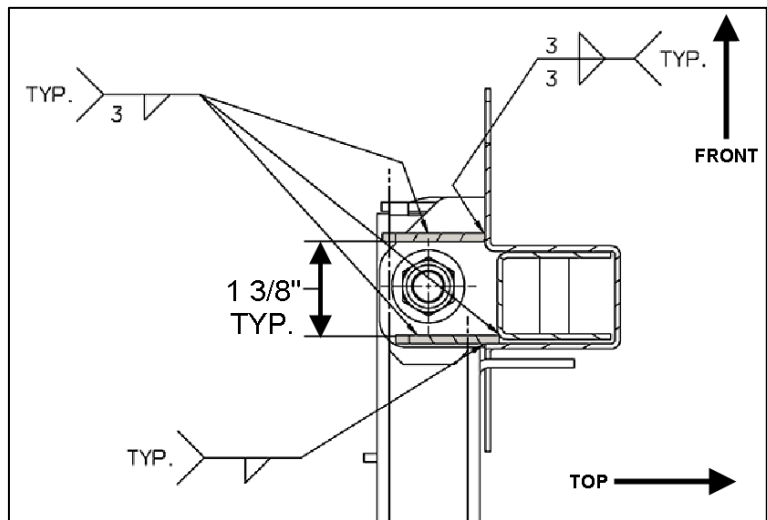

Figure 6
10. Welding Fillet dimension is 3mm (1/8") everywhere. (Fig. 6&7)